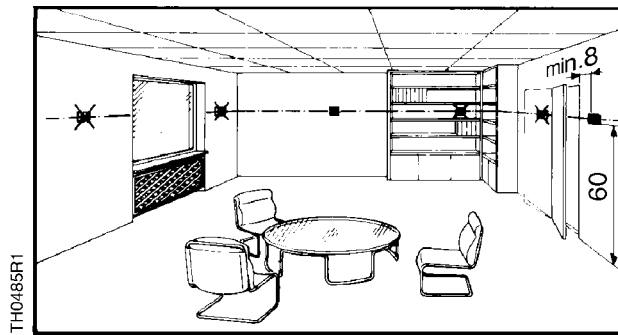

Figure 8. Acceptable Mounting Height.
- Mounting height is approximately 60 inches (150 cm) above the floor. (See Figure 8.)